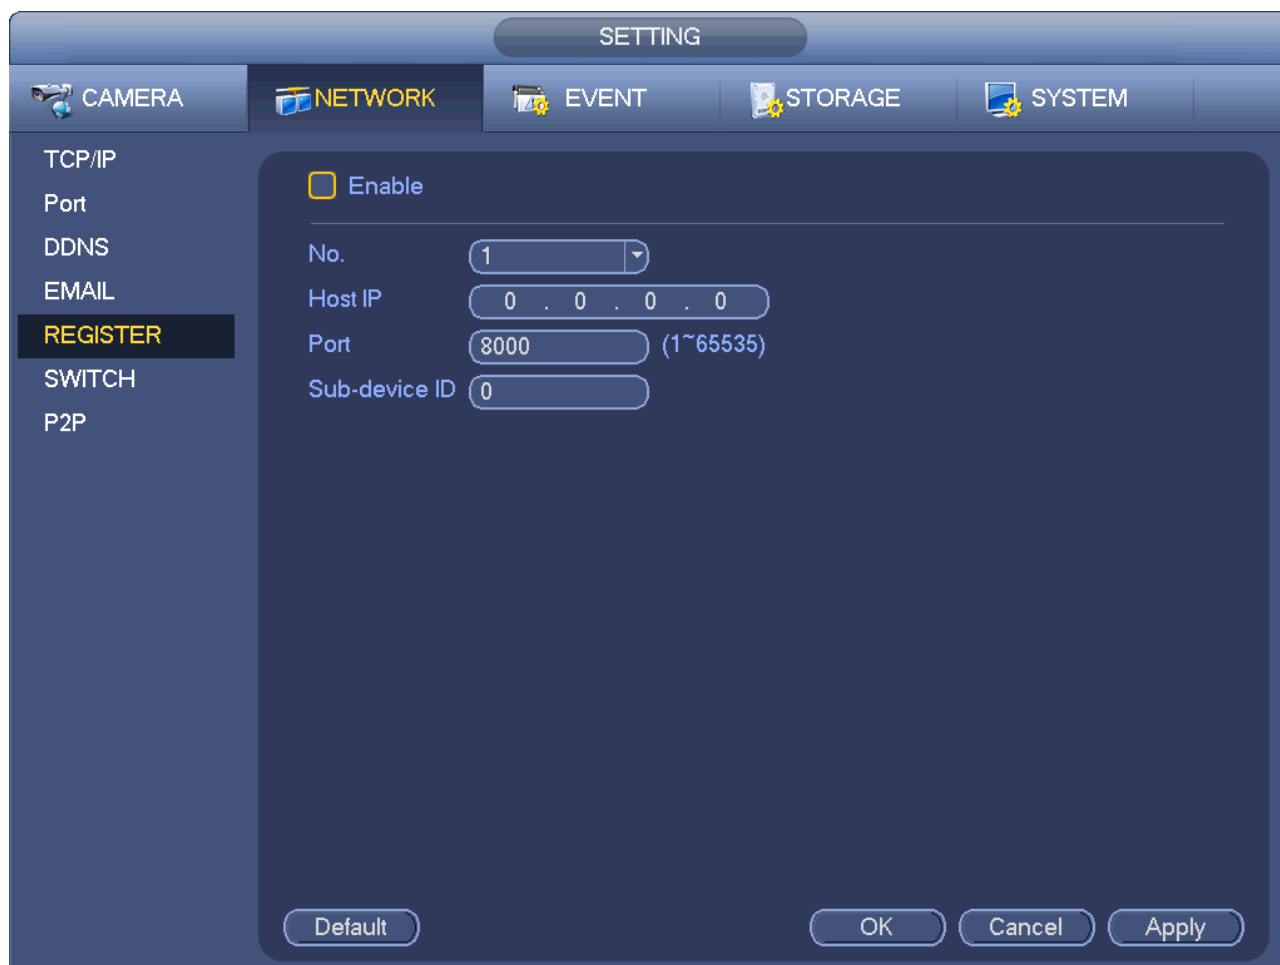

Figure 4-98
1) The setup interface is shown as in Figure 4-98.
3) Now you can add device. Please do not input default port number such as the TCP port in the mapping port number. The device ID here shall be the same with the ID you input in Figure 4-98. Click Add button to complete the setup.